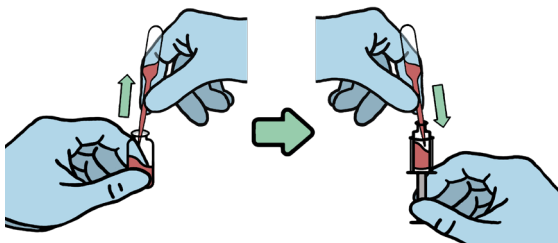

Figure 6. Performance of Step 8 Transfer.
8. Use the pipette to **transfer the entire contents** of the Sample Vial back into the Diluent Vial (Figure 6).